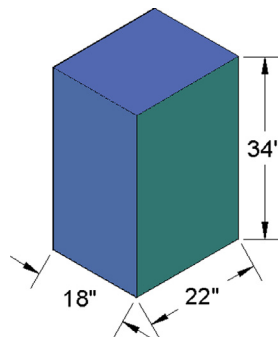

FIGURE 24.18
Step 1. Clear your screen of previous work, and make sure you are in the SW Isometric view. Starting from the beginning, draw a 22" × 18" rectangle and extrude it to 34". The result is a block of material similar to the one we just created when we practiced the taper command. It is shown shaded, we use a different color, in Figure 24.18.